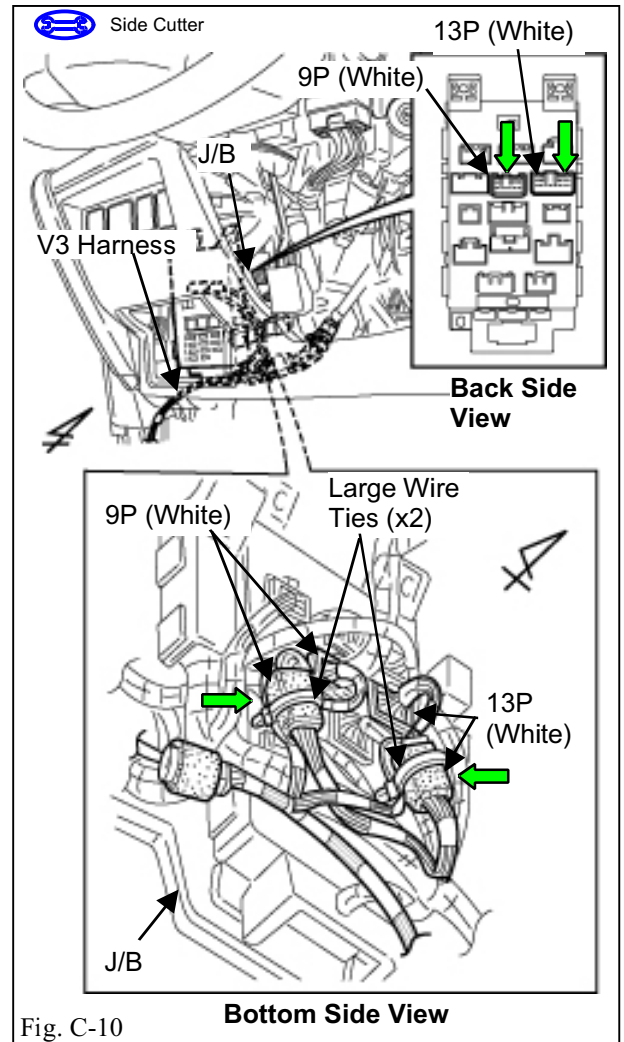

Fig. C-10
- ➔ 18. Plug in the V3 harness' white 9P connectors between the driver's side J/B and the vehicle harness 9P connector. (Fig. C-10)
- 19. Plug in the V3 harness' white 13P connectors between the driver's side J/B and the vehicle harness 13P connector. (Fig. C-10)
- ➔ 20. Secure the 9P connectors and 13P connectors to the vehicle harness with two large wire ties. (Fig. C-10)